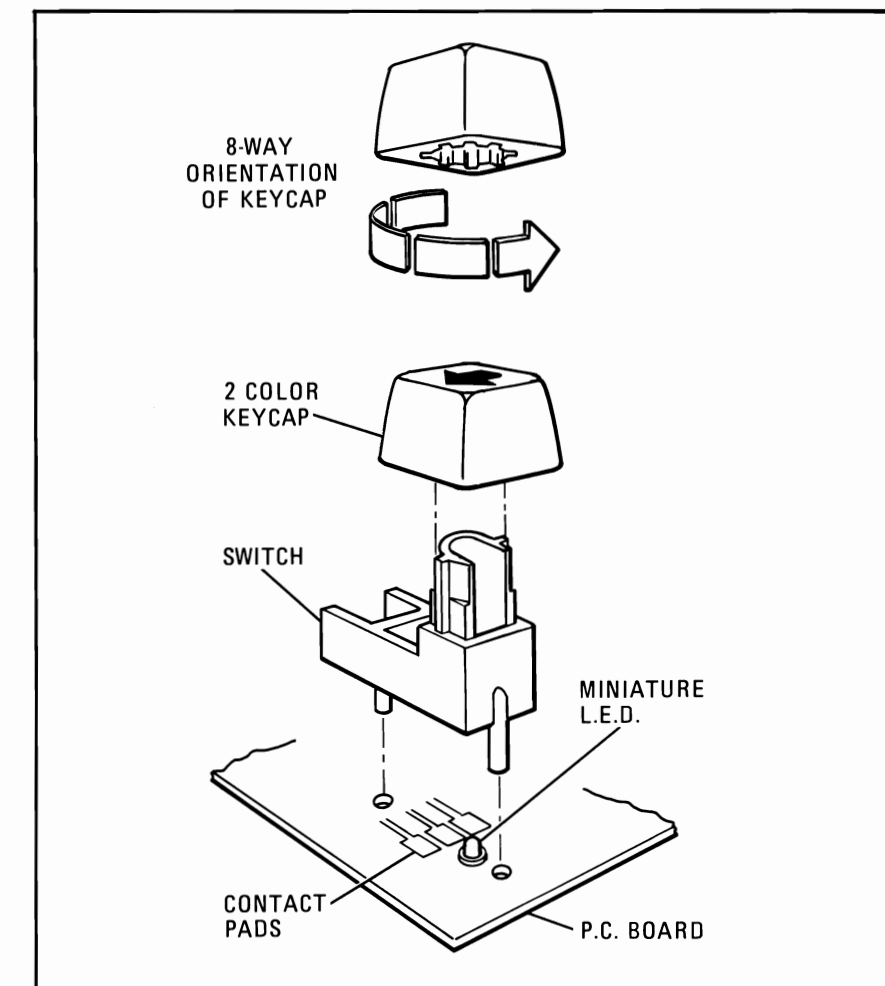

Figure 8-122. Front-Panel Pushbutton Switch Assembly
3. Remove the switch by chipping away the melted plastic tabs at the circuit of the keyboard which hold the switch in place. Refer to Figure 8-122.